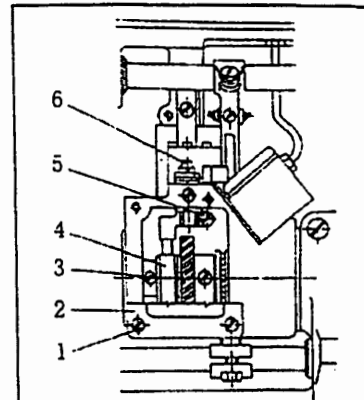

Fig.23
32. The position between hook and opener motion adjustment(Fig.23)